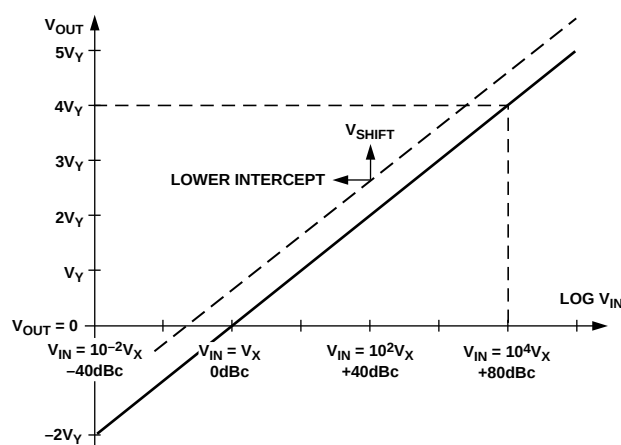
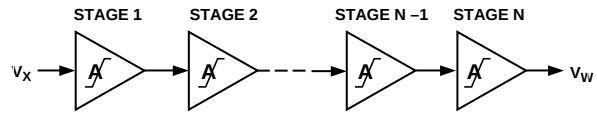
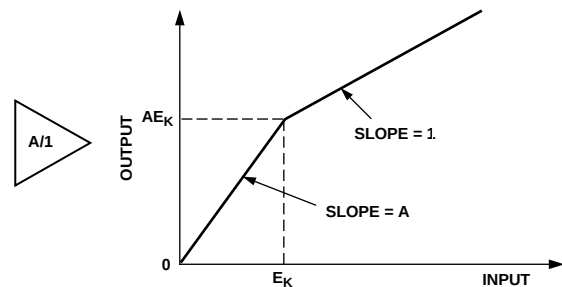
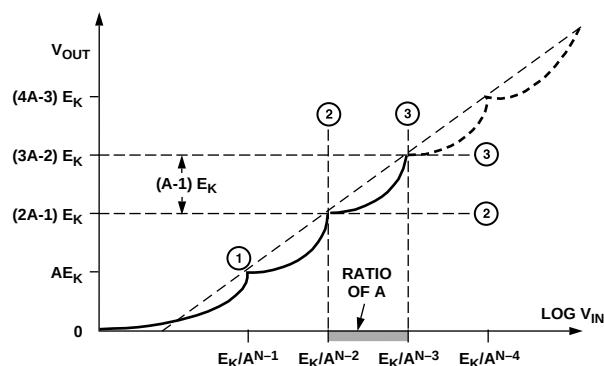

Figure 19. Ideal Log Amp Function
Figure 20. Cascade of Nonlinear Gain Cells
Figure 21. The A/1 Amplifier Function
Figure 22. The First Three Transitions
*references*. Note that (1) is mathematically incomplete in representing the behavior of a *demodulating* log amp such as the AD8309, where  $V_{IN}$  has an alternating sign. However, the basic principles are unaffected.
Figure 19 shows the input/output relationship of an ideal log amp, conforming to Equation (1). The horizontal scale is logarithmic, and spans a very wide dynamic range, shown here as over 120 dB, that is, six decades of voltage or twelve decades of input-referred power. The output passes through zero (the “log-intercept”) at the unique value  $V_{IN} = V_X$  and becomes negative for inputs below the intercept. In the ideal case, the straight line describing  $V_{OUT}$  for all values of  $V_{IN}$  would continue indefinitely in both directions. The dotted line shows that the effect of adding an offset voltage  $V_{SHIFT}$  to the output is to lower the effective intercept voltage  $V_X$ .
As a consequence of this high gain, even very small amounts of thermal noise at the input of a log amp will cause a finite output for zero input, resulting in the response line curving away from the ideal (Figure 19) at small inputs, toward a fixed baseline. This can either be above or below the intercept, depending on the design. Note that the value specified for this intercept is invariably an *extrapolated* one: the RSSI output voltage will never attain a value of exactly zero in a single supply implementation.
High speed, high dynamic range log amps use a cascade of nonlinear amplifier cells (Figure 20) to generate the logarithmic function from a series of contiguous segments, a type of piecewise-linear technique. This basic topology offers enormous gain-bandwidth products. For example, the AD8309 employs in its main signal path six cells each having a small-signal gain of 12.04 dB ( $\times 4$ ) and a  $-3$  dB bandwidth of 850 MHz, followed by a final limiter stage whose gain is typically 18 dB. The overall gain is thus 100,000 (100 dB) and the bandwidth to  $-10$  dB point at the limiter output is 525 MHz. This very high gain-bandwidth product (52,500 GHz) is an essential prerequisite to accurate operation under small signal conditions and at high frequencies: Equation (2) reminds us that the incremental gain decreases rapidly as  $V_{IN}$  increases. The AD8309 exhibits a logarithmic response over most of the range from the noise floor of  $-91$  dBV, or 28  $\mu$ V rms, (or  $-78$  dBm/50  $\Omega$ ) to a breakdown-limited peak input of 4 V (requiring a balanced drive at the differential inputs INHI and INLO).
To develop the theory, we will first consider a somewhat different scheme to that employed in the AD8309, but which is simpler to explain, and mathematically more straightforward to analyze. This approach is based on a nonlinear amplifier unit, which we may call an A/1 cell, having the transfer characteristic shown in Figure 21. We here use lowercase variables to define the local inputs and outputs of these cells, reserving uppercase for *external* signals.
labeled ① on Figure 22. Below this input, the cascade of gain cells is acting as a simple linear amplifier, while for higher values of  $V_{IN}$ , it enters into a series of segments which lie on a logarithmic approximation.
Continuing this analysis, we find that the next transition occurs when the input to the (N-1)th stage just reaches  $E_K$ , that is, when  $V_{IN} = E_K/A^{N-2}$ . The output of this stage is then exactly  $AE_K$ . It is easily demonstrated (from the function shown in Figure 21) that the output of the final stage is  $(2A-1)E_K$  (labeled ② on Figure 22). Thus, the output has changed by an amount  $(A-1)E_K$  for a change in  $V_{IN}$  from  $E_K/A^{N-1}$  to  $E_K/A^{N-2}$ , that is, a *ratio* change of A.
The intercept voltage can be determined by solving Equation (4) for any two pairs of transition points on the output function (see Figure 22). The result is:
Care is needed in the interpretation of this parameter. It was earlier defined as the input voltage at which the output passes through zero (see Figure 19). Clearly, in the absence of noise and offsets, the output of the amplifier chain shown in Figure 20 can only be zero when  $V_{IN} = 0$ . This anomaly is due to the finite gain of the cascaded amplifier, which results in a failure to maintain the logarithmic approximation below the “lin-log transition” (Point ① in Figure 22). Closer analysis shows that the voltage given by Equation (5) represents the *extrapolated*, rather than actual, intercept.